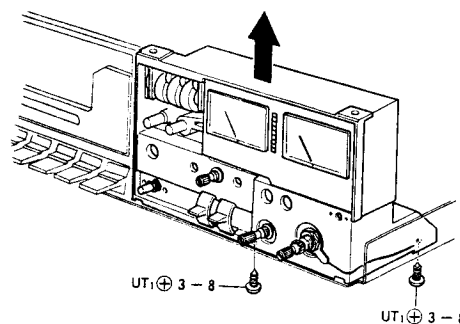

Fig. 6
- 2) Remove 2 screws. (Refer to Fig. 6)